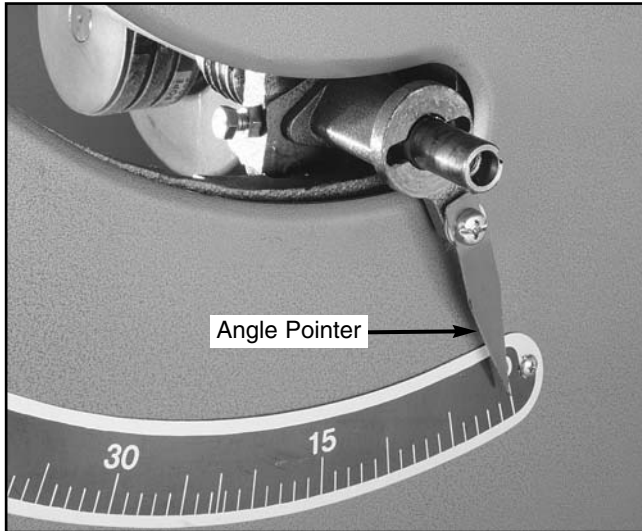

Figure 24.
1. The angle pointer is located behind the arbor height hand wheel. **Figure 24.** (hand wheel removed for clarity)